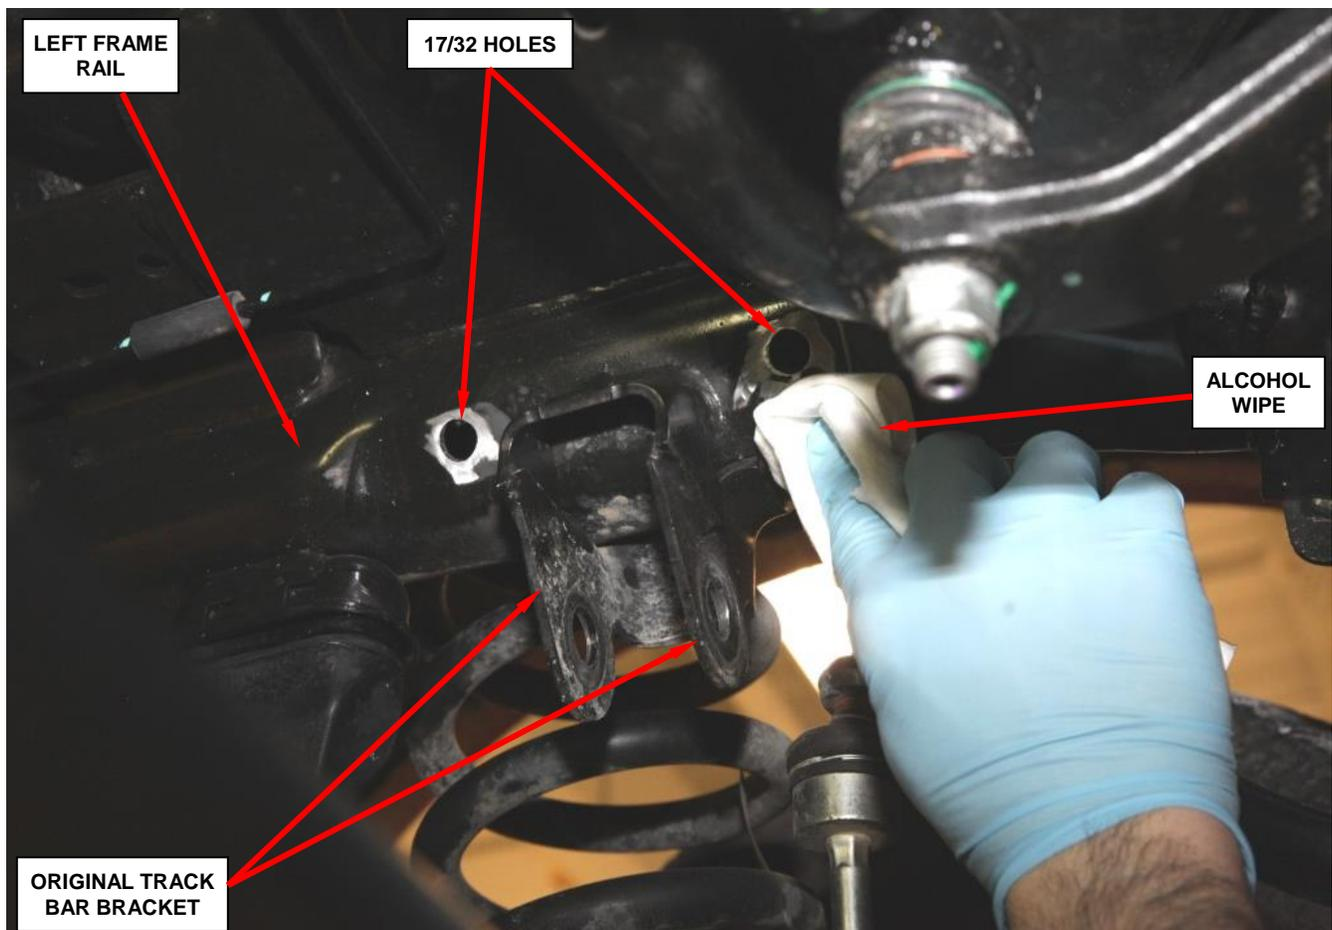

Figure 36 – Remove Metal Burrs and Clean Area with an Alcohol Wipe
- Using a small disc grinder, remove all metal burrs from both 17/32 inch holes drilled in Step 10 so that the head of the riv-nut will sit flat against the frame surface (Figure 36).
- Clean the 17/32 inch hole locations with an alcohol wipe (Figure 36).